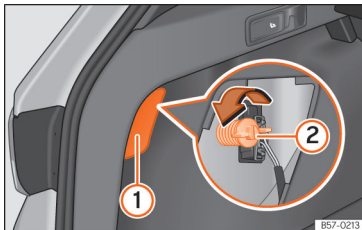

Fig. 59 Luggage compartment: access to the bolt securing the tail light unit.
- Remove the lid, levering it with the flat side of a screwdriver into the recess » **Fig. 59** ①.
- Unscrew the light securing bolt by hand or using a screwdriver » **Fig. 59** ②.